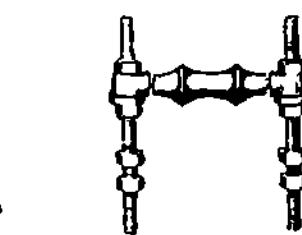

Figure 17-19. Other Types of Hangers and Supports
u) Space does not permit listing all the different hangers and supports, but several other types of hangers are shown in Figure 17-19.